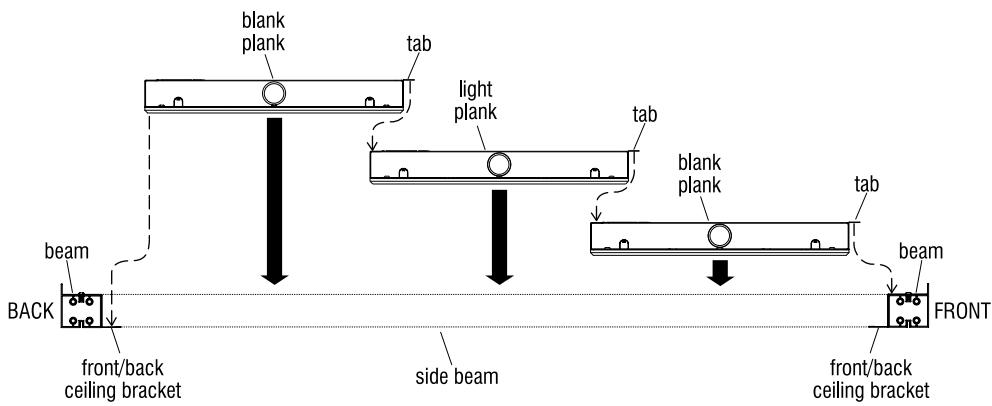

Figure 6
3. Start by installing the ceiling plank which will be in the front of the room (Figure 6). With two people, carefully lift the plank designated for the front as illustrated, up and over the room. Set the front plank in place such that the longer side "tab" rests on the top of the front beam as illustrated, and the end flanges rest on both ceiling side brackets. Repeat placing ceiling planks into position by positioning the next plank so the plank's long edge tab rests on the previous plank installed, and the end flanges rest on both ceiling side brackets. Repeat the above process for remaining ceiling planks (Figures 6 & 7).